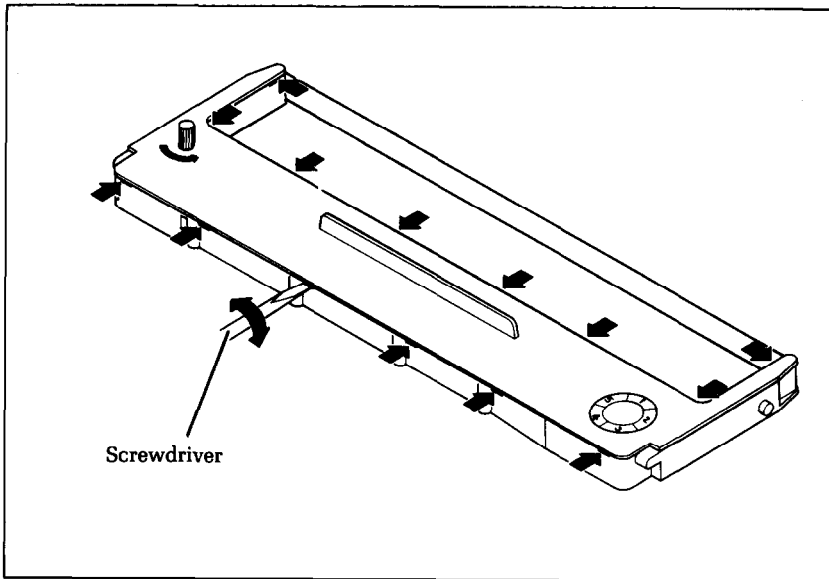

Figure 14-1. Use a screwdriver to pry open the cartridge.
3. Pry open the cartridge cover with a thin-bladed screwdriver. Arrows in Figure 14-1 show the numerous slots for inserting a screwdriver.